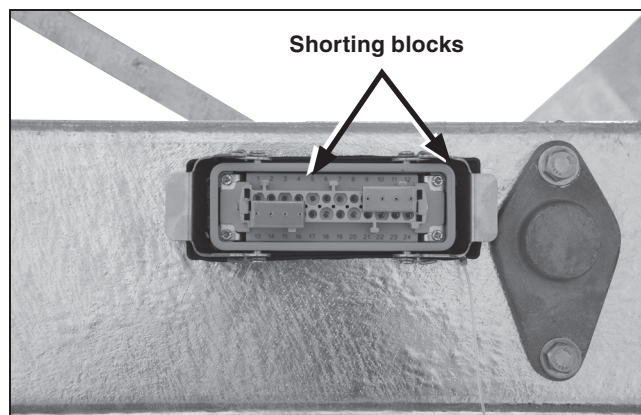

Figure 21. Shorting blocks.
STEP 19. Remove the sensor shorting blocks from the receptacle and attach the plug from the control cable. Secure the connection with the connector clips. Retain the dust cover and sensor shorting blocks for future use. See Figures 21 and 22.